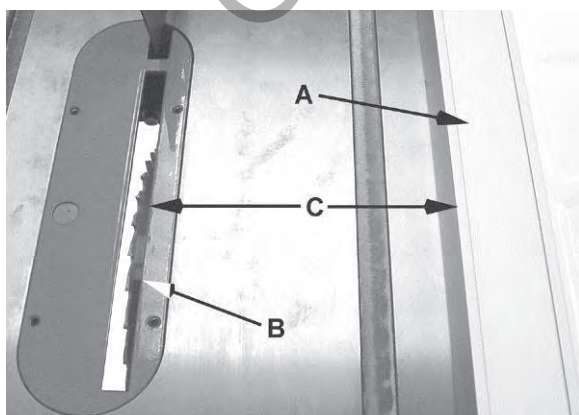

Figure 26
The *rip fence* (A, Fig. 26) should be set for the *width of the cut* (C, Fig. 26) by using the scale on the front rail, or by measuring the distance between the blade (B) and fence (A). Stand out of line with the saw blade and workpiece to avoid sawdust and splinters coming off the blade or a kickback, if one should occur.